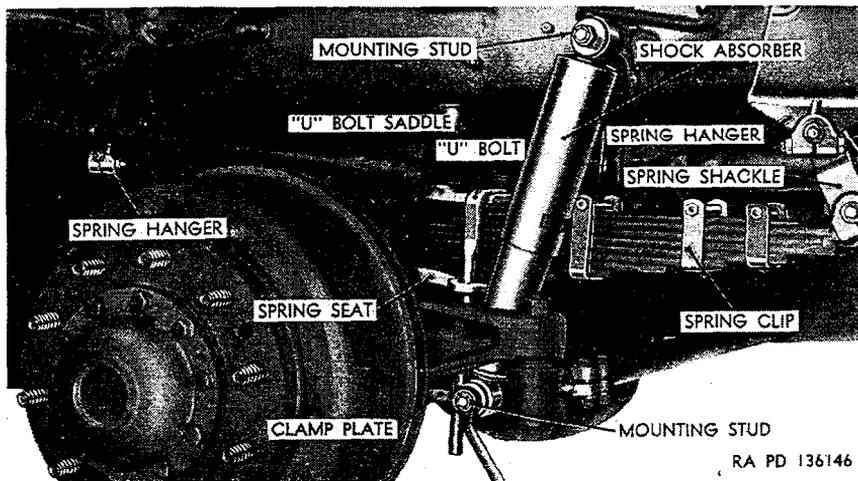

Figure 270. Left front spring and shock absorber—installed.
- (1) *Front springs.* Two semielliptic-type springs, one on each side, are mounted with the arch down at the front of the vehicle (fig. 270). An eye at the rear end of each spring is pinned to a shackle which is pivoted on a hanger attached to the frame side rail. This permits the rear end of the spring to move within the limits of the arc of travel of the shackle. An eye at the front end of each spring is pinned to a hanger attached to the frame side rail. The spring leaves are held together as an assembly by a bolt through the center of each leaf, and the leaves are held in alinement by six clips. The front axle is secured to each of the front springs by a pair of **U** bolts and clamp plates.
- (3) *Shock absorbers.* Two nonadjustable, double-acting shock absorbers (fig. 270), one on each side, are mounted at the front of the vehicle. The upper end of each shock absorber is secured by a safety nut and washer to a stud, which is
(fig. 270)